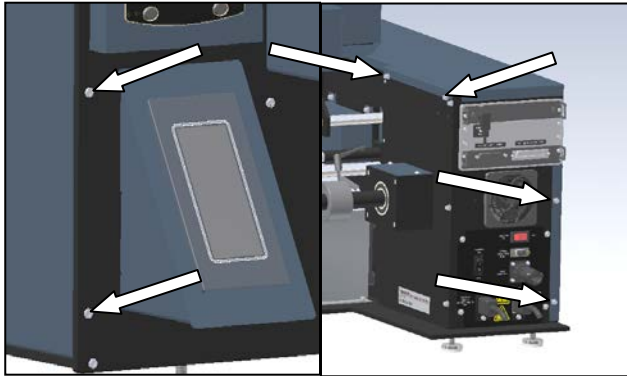

Figure 2-6. Frame Cover Screws
1. With machine power disconnected, remove the left side frame guard. Remove the two screws on the rear face plate, the two screws on the front face plate, and the two screws on the middle unwind plate (Figure 2-6).